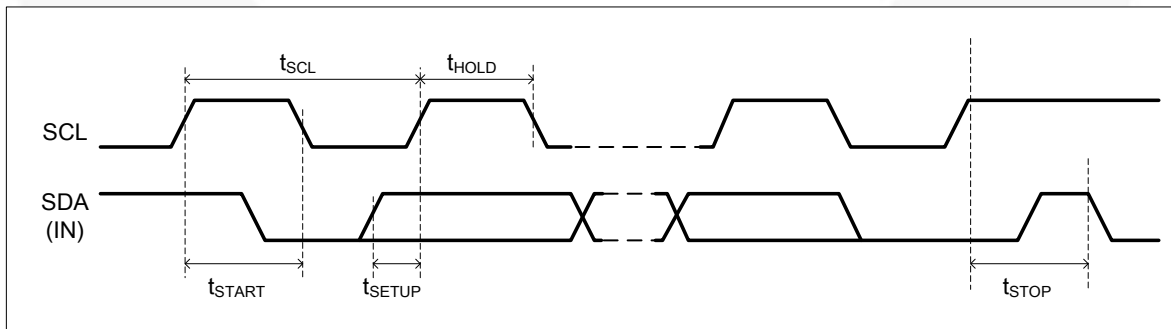

Figure 8. I²C interface Timing Diagram
10. I2C timing diagram as Figure 8.